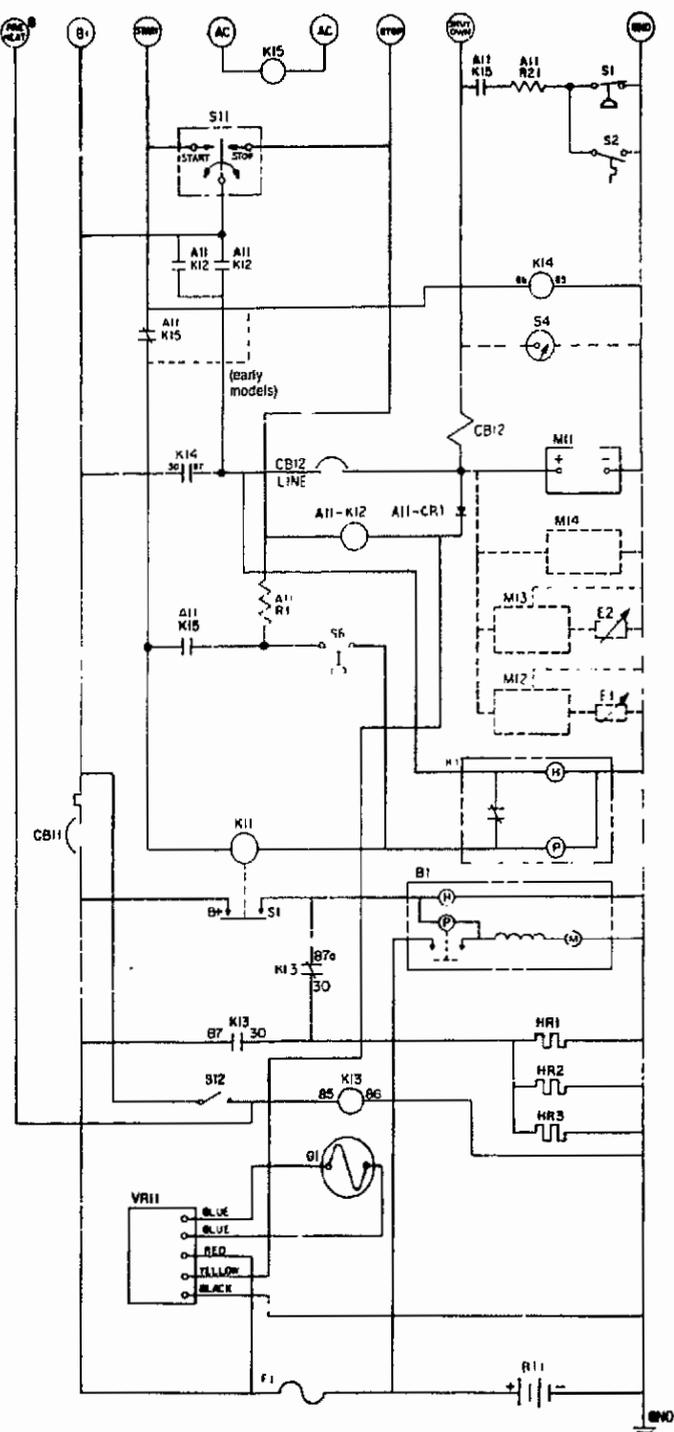

FIGURE 3-8. TYPICAL CONTROL SCHEMATIC
Figure 3-8 shows a typical schematic for the circuits described in the following Starting, Start-Disconnect and Stopping sequences. Relay contact references normally open (NO) and normally closed (NC) refer to position of contacts with the unit at rest (not energized).
Emergency Shutdown: Fault breaker CB12 opens to stop the engine anytime a fault sensor closes the circuit to ground. The fault sensors as shown in Figure 3-8 are: